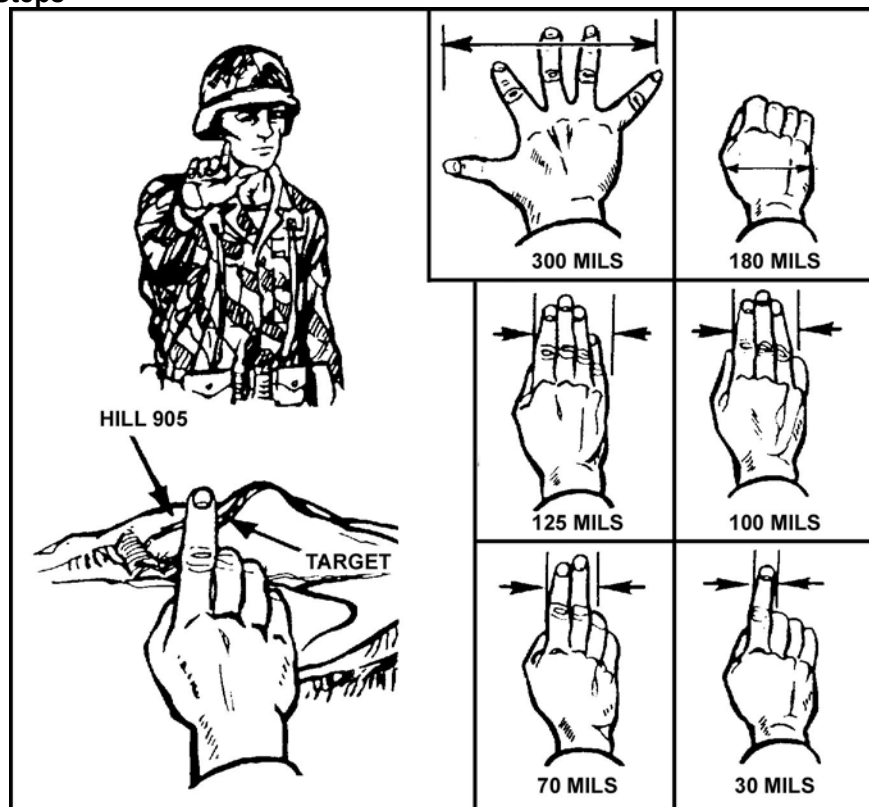

Figure 1. Finger-hand mil relation.
- c. Since the FO/squad leader has no binoculars, he must use the finger-hand method to determine how many mils a round is to the left or right of the target to make the required corrections (Figure 1).